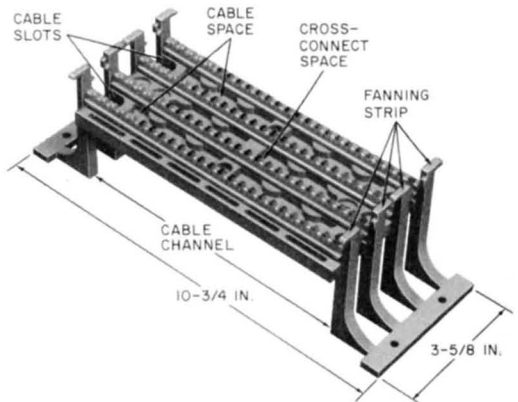

Fig. 9—88AW1-100 Wiring Block
* Use with 184B2 backboard. See Fig. 9.
† Use with 187B1 backboard. See Fig. 9.